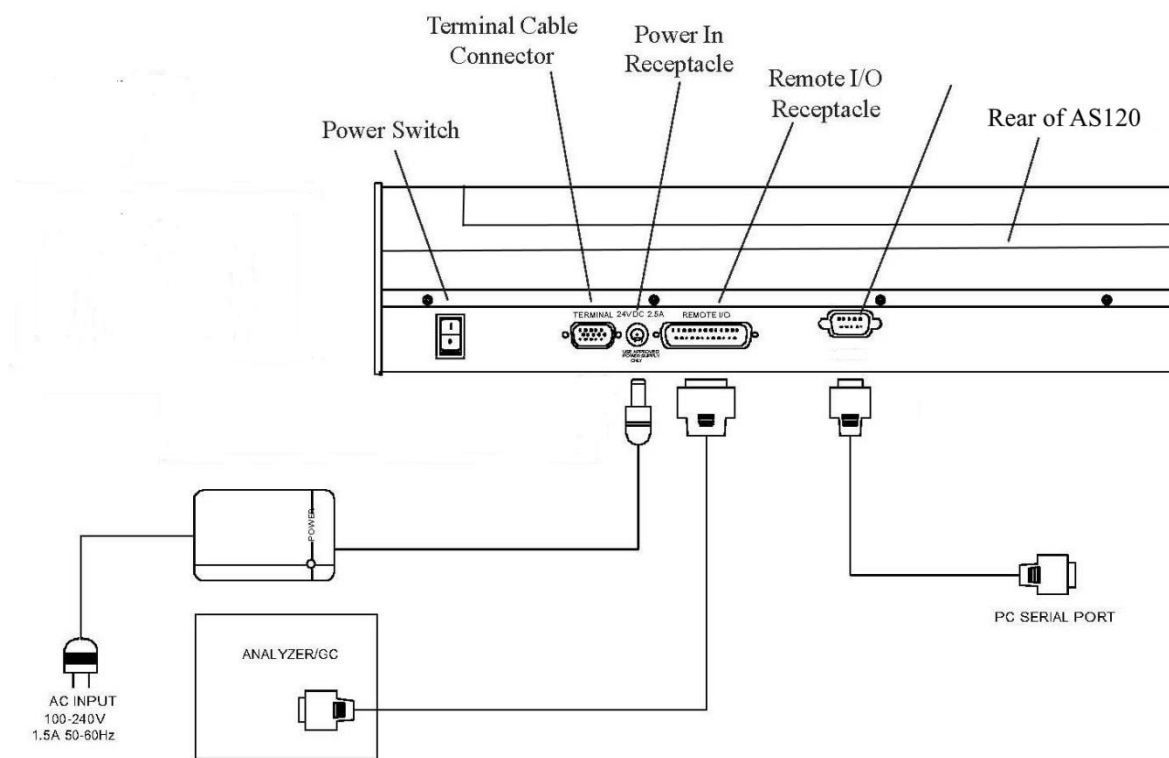

Figure 2.0: Rear of AS120
4. Install the cable from the PC to the rear of the AS120, see Figure 2.0.
Figure 2.0 shows the complete installation of cables to the GC and for RS 232 remote control. Be certain all cable connections are made before the power to the AS120 is turned on.